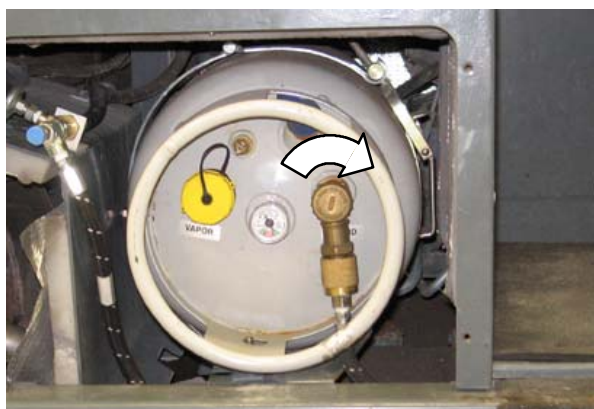

FIG. 1
1. Close the LPG tank service valve. (Fig. 1)